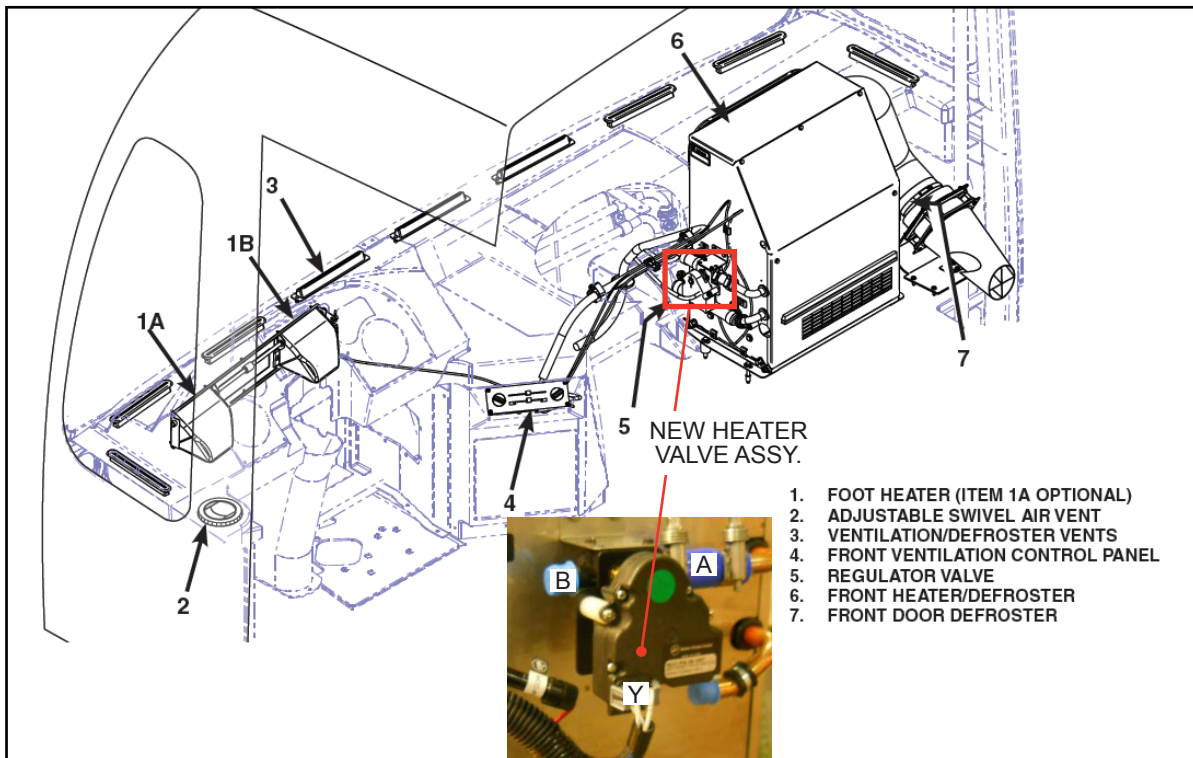

Figure 3 - Typical Heating System Components in Operator's Area
- 1.6. Identify the location of heater valve assembly in defroster unit (see Figure 3).
- 1.7. Disconnect the heater hoses (A, B) and harness (Y) (see Figure 3).